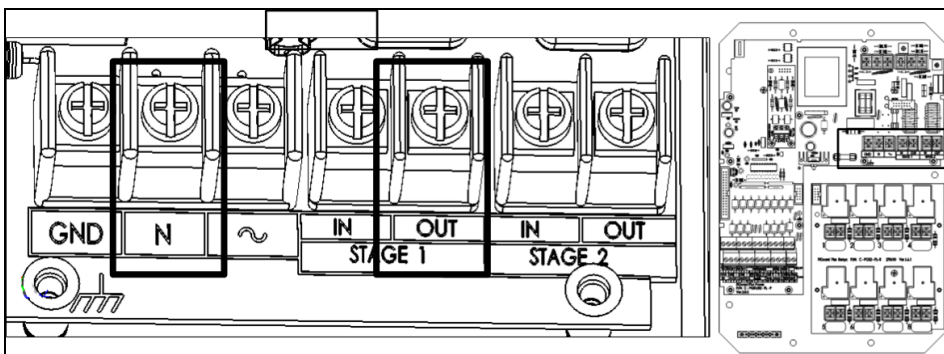
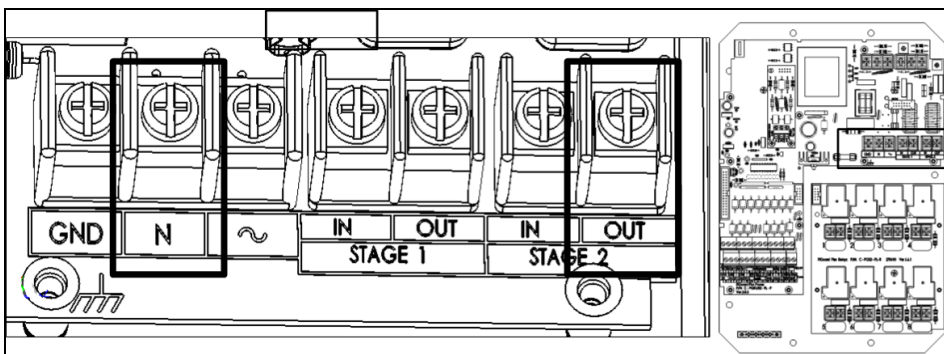

Figure 5: TRIAC 1 Power
Figure 6: TRIAC 2 Power
7. Place the probes on the **Input N** and **Stage Out** ports (Figure 5 or Figure 6 for TRIAC 1 or TRIAC 2 respectively). The voltmeter displays the voltage being provided to the fan.